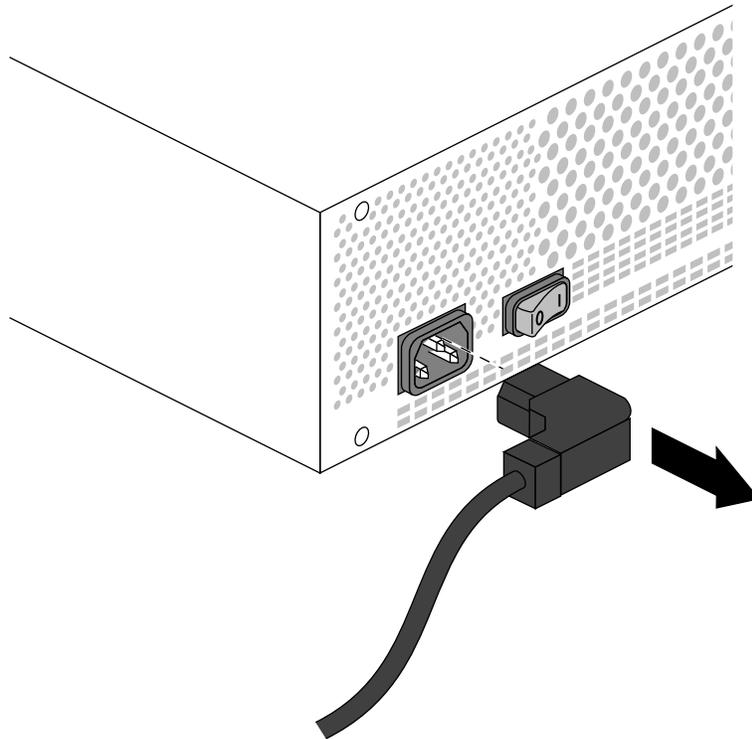

Figure 5-31 Disconnecting the Power Cord Extension
6. Disconnect the power cord extension at the front of the power supply, as shown in Figure 5-31.